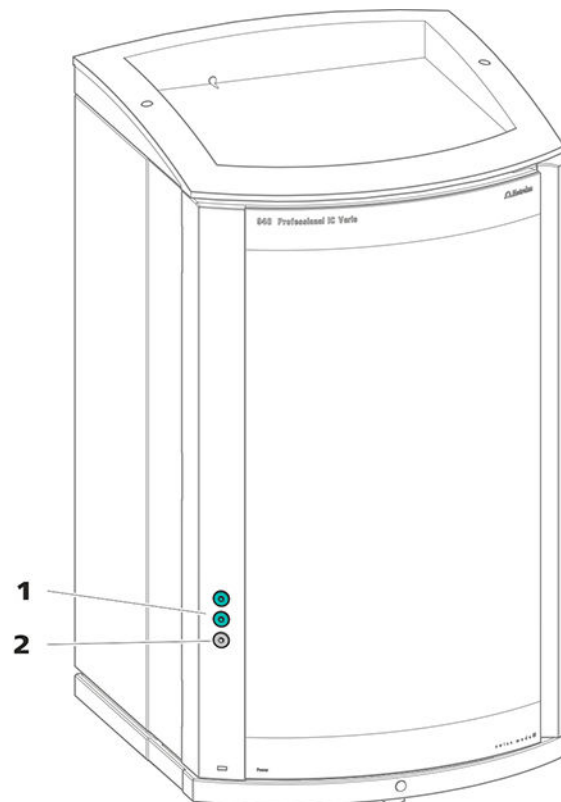

Figure 3 Feed-throughs on the door
- Openings on the door (*see figure 3, page 13*)